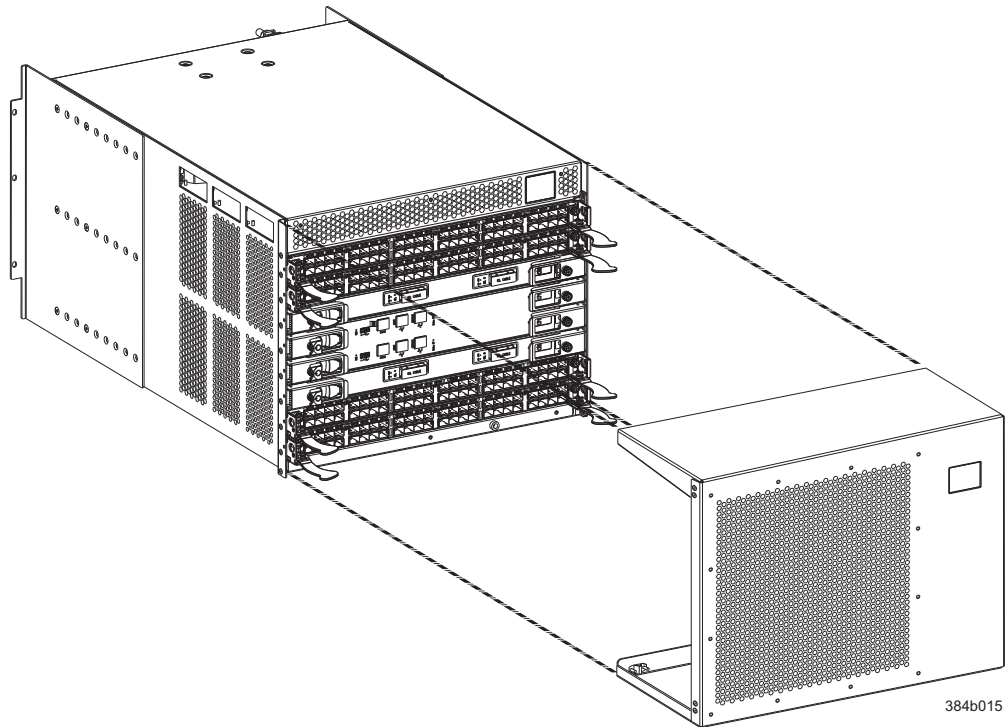

Figure 34. Chassis door
2. Push the door into place. It will snap onto the studs. See Figure 34.